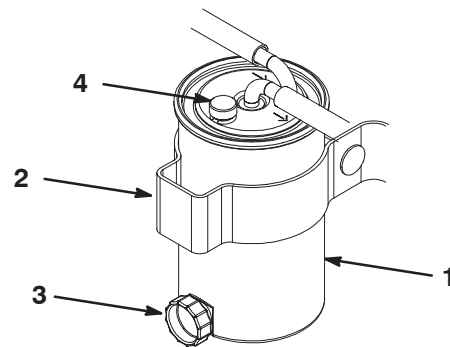

Figure 11
1. Clean the area where the filter canister mounts (Fig. 11).
4. Open the filter drain plug and breather valve (Fig. 11).